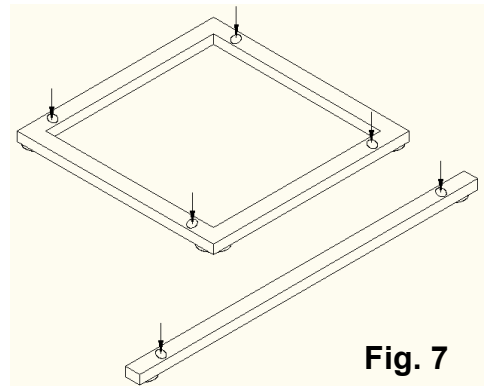

Fig. 7
6. On the top surface of each Just for Kids Single Base (#355-01) and the Just for Kids 4-Station Circuit Base (#355-154), there are holes which reveal the anchor holes (**Fig. 7**).
14. Install the plastic caps in the indicated holes shown in **Fig. 7** of the top of the Bases.